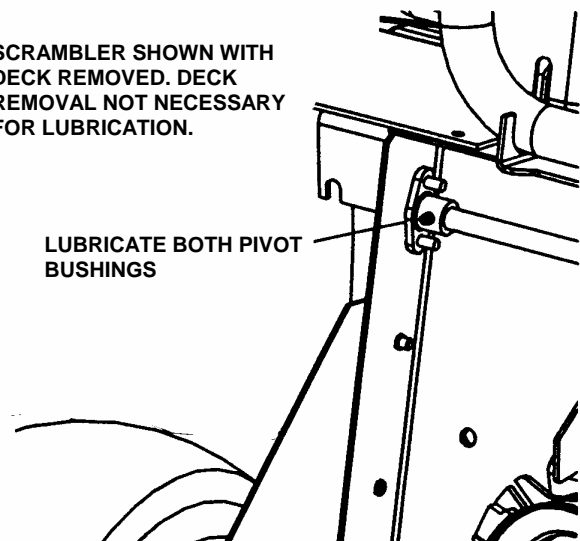

FIGURE 3.9
- e. Lubricate both pivot bushings with three shots general purpose grease from grease gun. See Figure 3.9.